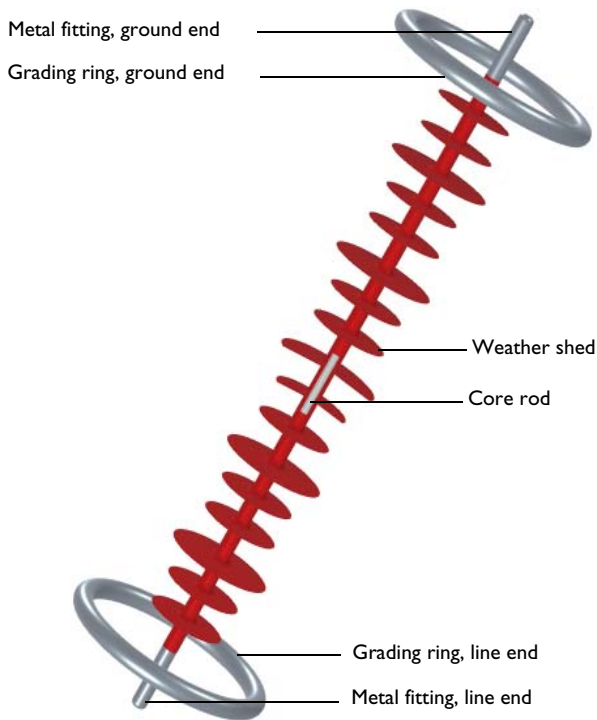

Figure 7: The high voltage insulator geometry.
Insulators are widely used in high voltage power transmission lines to support the weight of suspended conductors without allowing the current to flow through the tower to ground. A typical high voltage composite insulator rated at 110 kV is shown in Figure 7.
- 2 Figure 7 indicates that the geometry of the insulator can be modeled in 2D Axisymmetric Space Dimension. Therefore, in the Space Dimension window click 2D Axisymmetric .